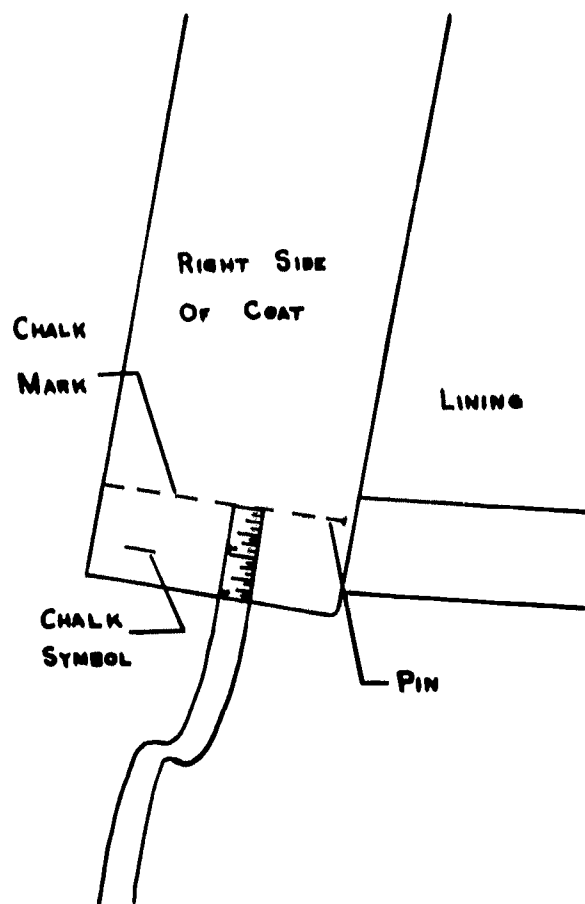

Figure 15.
2. If the new length was marked with chalk, place pins on top of each of the chalk marks. The pins are placed through the top layer only and now indicate the new hemline. Measure and record the amount to be shortened (see Figure 15). If the coat is to be lengthened, this step does not apply.